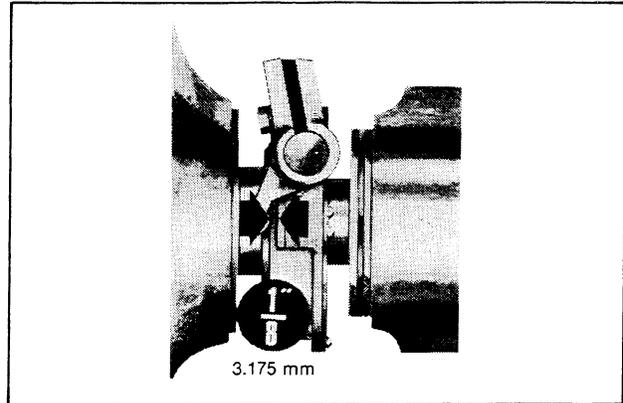

Figure 10:
10. Check pedal free travel as follows before installing rod clevis pin. Rotate clutch outer arm until the clutch release yoke fingers contact the release bearing thrust pads (a slight resistance should be felt). Hold and mark the end of the clutch “cross shaft” in this position, while observing the mark on the end of the cross shaft rotate the shaft back (away from the release bearing) 1/8 inch (3.175 mm) from the marked position. Screw clutch rod clevis “in” or “out” so that the pin will go through clevis and clutch release arm freely in this position. (see Fig. 10).